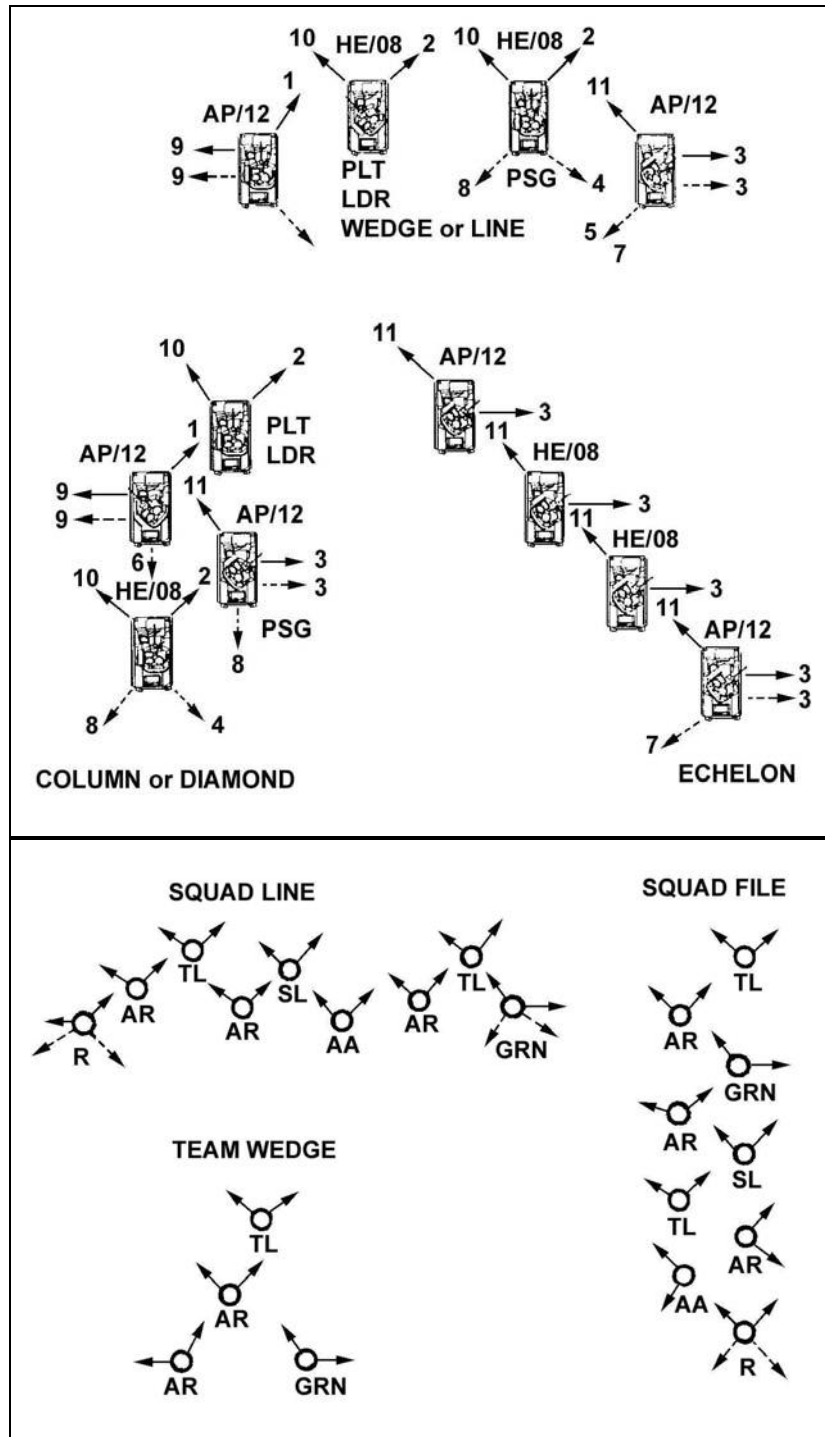

Figure 9-6. Example BFV platoon direct-fire SOP.
a. **Direct Fire.** A well-rehearsed direct-fire SOP ensures that all members of the platoon react quickly and predictably (Figure 9-6, page 9-13). The leader bases each element of the direct-fire plan on the capabilities of the platoon and on the anticipated conditions. For example, if the contingency area is a desert with good observation and long engagement ranges, he selects extended battlecarry settings for the BFVs.
(1) Choosing a standard, respective position for TRPs allows the platoon leader to quickly establish and communicate his location. For example, he might number all reference points from left to right. Three TRPs usually suffice for a platoon during movements, halts, and hasty actions.
(2) The platoon leader assigns sectors and identifies engagement priorities to ensure the platoon acquires all targets and distributes fires effectively. One technique he could use is for both he and the platoon sergeant to search and engage mostly near- to mid-range troops, and for him to have the wingmen observe for mid- to long-range light armored fighting vehicles.
(3) The platoon leader designates a weapons-readiness posture for established sectors and engagement priorities. In addition, the platoon leader and platoon sergeant could, for example, select HE HI and Index 8 for range, while having the wingmen select AP HI and Index 12 for range.
(4) Having a standing fire pattern enables the platoon to distribute fires while engaging multiple, similar targets. For example, the platoon leader and platoon sergeant engage the close to middle targets, then work their way to the outside of the enemy formation. The wingmen, on the other hand, engage targets to their respective fronts, then work their way toward the inside of the enemy formation.
(5) The platoon leader sets standard engagement techniques to achieve desired target effects, minimizing friendly exposure. As an example, he could have the BFVs initiate with simultaneous fire, then revert to alternating fires. One infantry squad suppression pattern technique would be to engage initially with simultaneous fires, then to sustain suppression with alternating fires, with each weapon firing a given number of rounds or bursts.
(6) The platoon leader selects an initial weapons-control status that allows soldiers to engage the enemy, but that at the same time reduces the chance of fratricide. "Weapons tight" is a good initial weapons-control status.
(7) The platoon leader chooses signals for shifting fire that members of the platoon can both hear and see. For example, he might decide to use a green pyrotechnic and a certain code word to shift fires, and a red pyrotechnic and another code word to adjust or cease fires.
(8) The platoon leader plans for degraded capabilities and loss. In one example, a single BFV temporarily assumes the responsibilities of a nonmission-capable or degraded BFV of the same section. As the operational tempo permits, the platoon leader adjusts to compensate for the degraded capabilities and losses. Also, if an automatic rifleman or antiarmor gunner becomes a casualty, the assigned backup secures the M249, M240B, or any antiarmor weapon and assumes the downed soldier's sector responsibilities.
(4) **Sector of Fire and Weapons-Ready Posture.** (Figure 9-6.)
(9) **Sectors.** (Figure 9-6.)